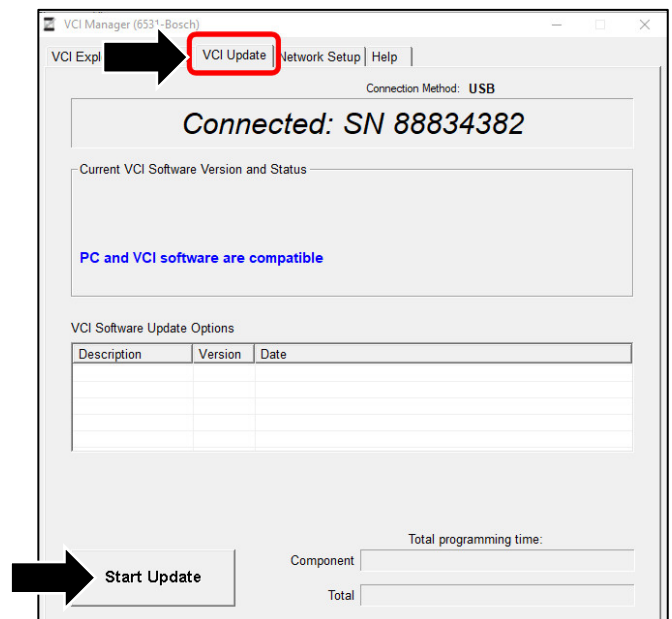

Figure 9
10. Click the “VCI Update” tab then click “Start Update” and follow the instructions (refer to Figure 9).